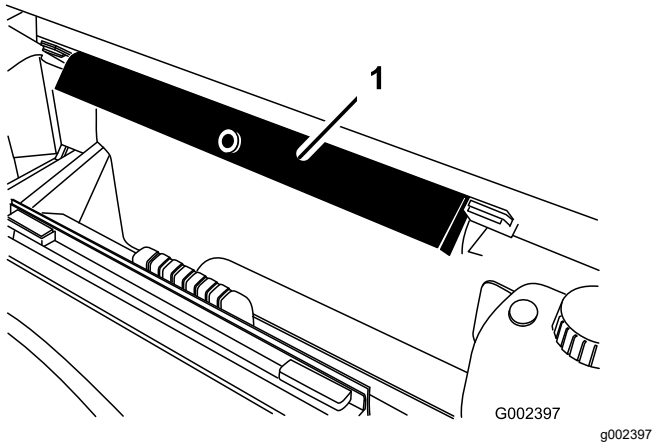

Figure 11
- Remove the bed support from the storage brackets on back of the ROPS panel (Figure 11).